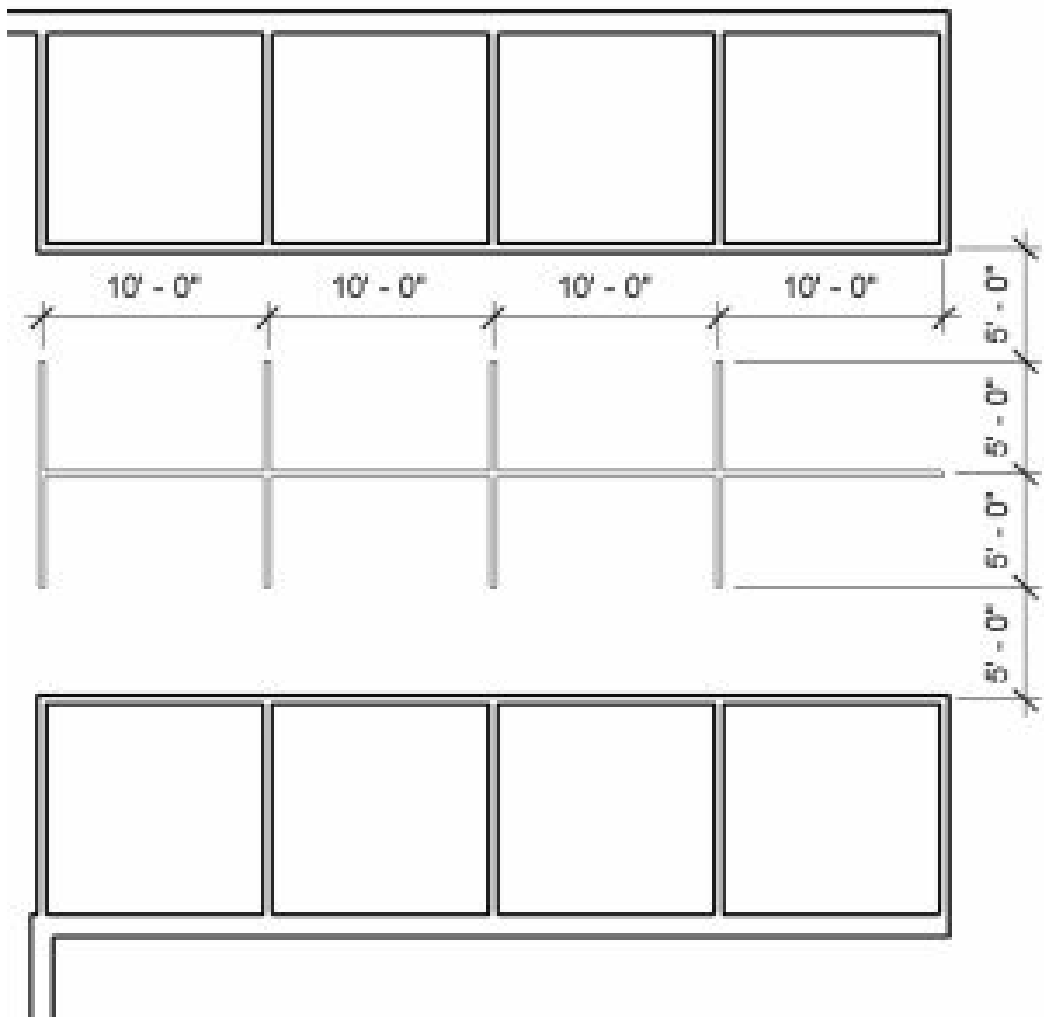

Figure 2.26 Interior walls with dimension lines
11. Refer to Figure 2.26 to draw the cubicle partition walls